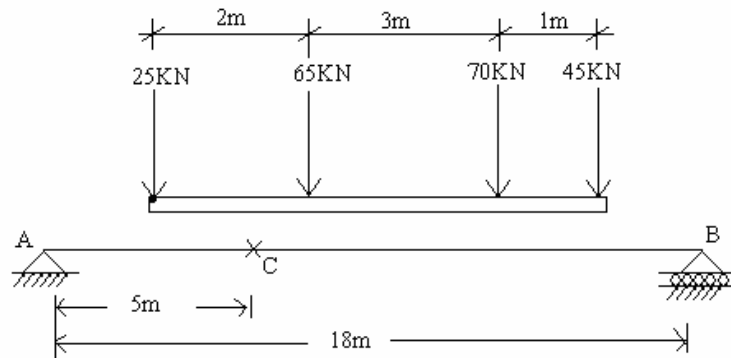

Fig.4
6. The system of concentrated loads shown in Fig.4 rolls from left to right on the girder of span 18 m, 45 kN load is leading the loads. For a section at 5 m left support, determine